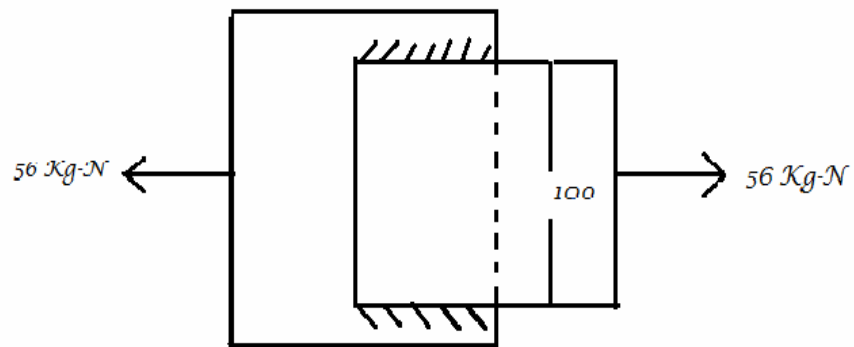

FIG. NO. 1
- (b) As shown in FIG. NO. 1. a plate 100 mm. wide and 12.5 mm thick is to be welded to another plate by means of parallel fillet weld. The plates are subjected to a load of 50 Kg-N. Find the length of the weld so that the maximum stress should not exceed 56 N / mm^2 . Consider the joint is under **07**